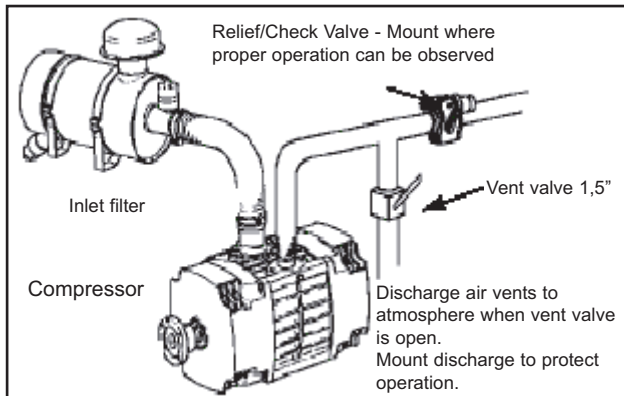

Figure 8 - Typical compressor installation
3. The compressor **MUST** have an adequately sized pressure relief valve installed approximately 30 inches after the compressor discharge ; See figure 8.